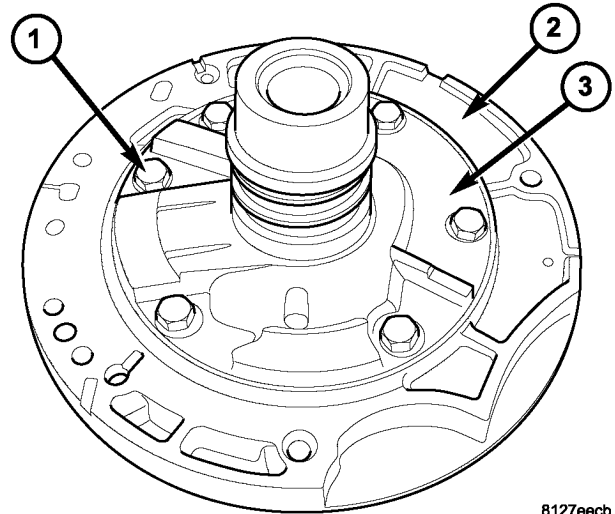

Fig. 287 Reaction Support-to-Pump Body Bolts
- 5 - SEAL RINGS (4)
(2) Install and torque reaction shaft support-to-oil pump housing bolts to 28 N·m (20 ft. lbs.) torque (Fig. 287).